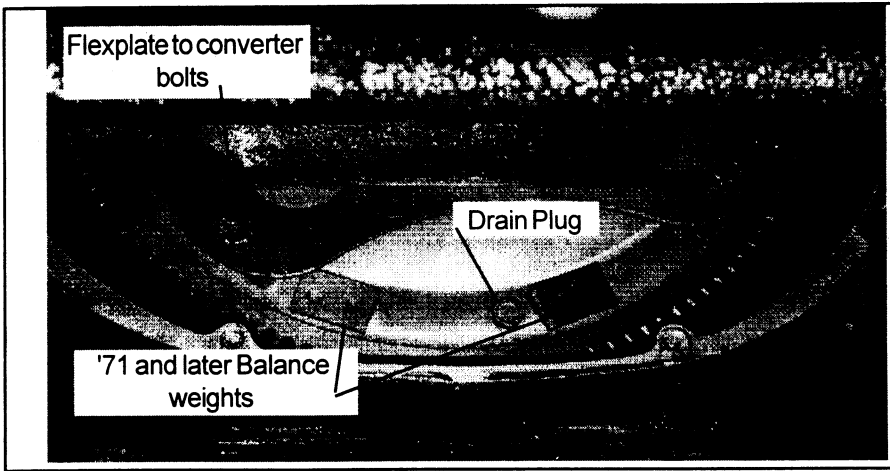

Figure 3
STEP 6. Remove dipstick and tube assembly. Remove torque converter access cover bolts and access cover (see fig. 3). Remove flexplate to converter bolts (see fig. 3). Use engine rotating tool or starter motor to "bump" each bolt into position.
Important Note: Chrysler began producing cast-iron crankshafts in 1971. These crankshafts require external balance weights (which are normally attached to the torque converter) to balance the engine. B&M Torque Converters are dynamically balanced without any crankshaft balancing weights and cannot be directly substituted for an externally balanced torque converter or severe vibration will occur. B&M manufactures counter balanced flexplates for these applications which allows the use of a B&M converter with a cast iron crankshaft equipped engine (see fig. 7). Inspect your stock torque converter. If there are one or more balance weights spot welded between two drive lugs on the front of the converter (see fig. 3), you must use one of the following flexplates for proper engine balance: